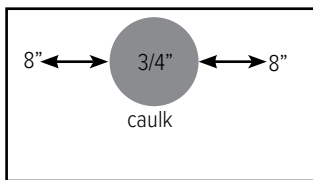

Figure 2.2.1
2.2.1 Apply caulk on front vertical reveals as shown in Figure 2.2.1. Double sided tape can be placed sporadically across the reveal.